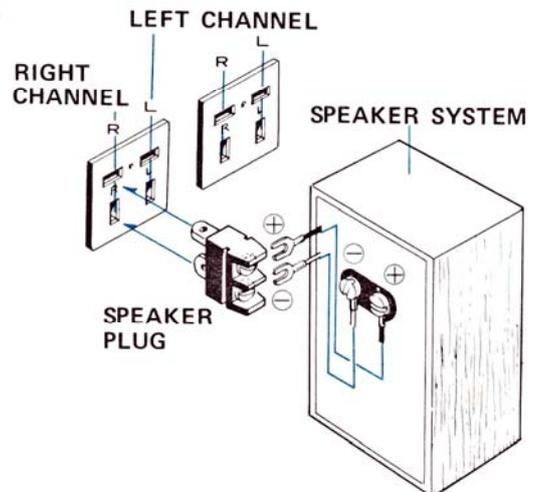

Fig. 4
- As shown in Fig. 4, connect the lead wires of the speaker system to the supplied speaker plugs. Be sure to observe the correct polarity and no short between \oplus and \ominus .